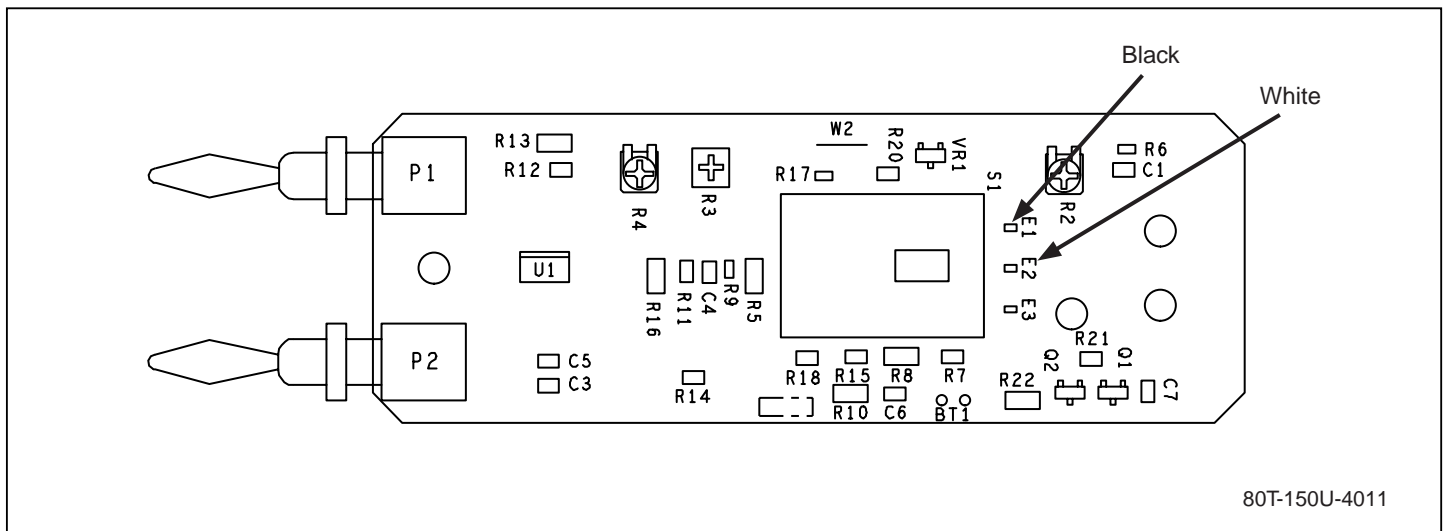

Figure 1.
2. Note the location of the white, black, and bare cable leads (see Figure 1).
4. Adjust R3 (see Figure 1) to obtain the following reading: